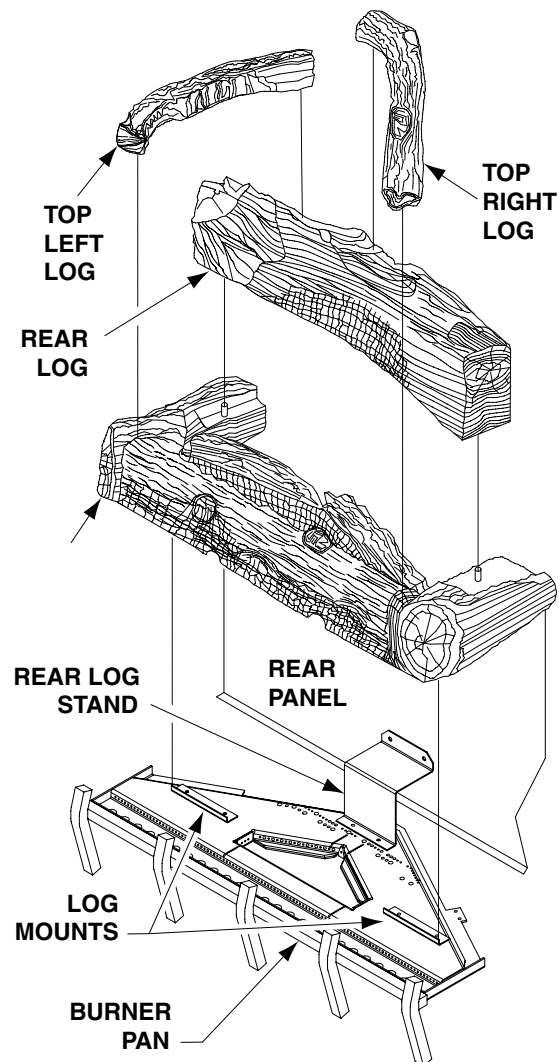

Figure 31 - Installing Logs
1. Position the base log onto burner log mounts. (see **Figure 31**).
2. Position the holes on the bottom of the rear log over the pins on the base log **Figure 31**.
3. Position the top left log and top right log onto the rear log and base log as shown in (see **Figure 31**).